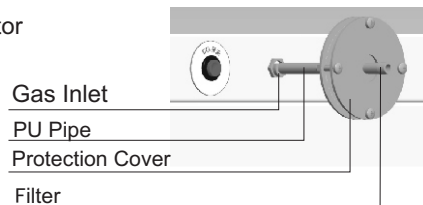

Figure 1
- Using the provided pipe to connect the regulator with the instrument. The gas inlet port is positioned at the right side of the instrument (as shown in figure 1).